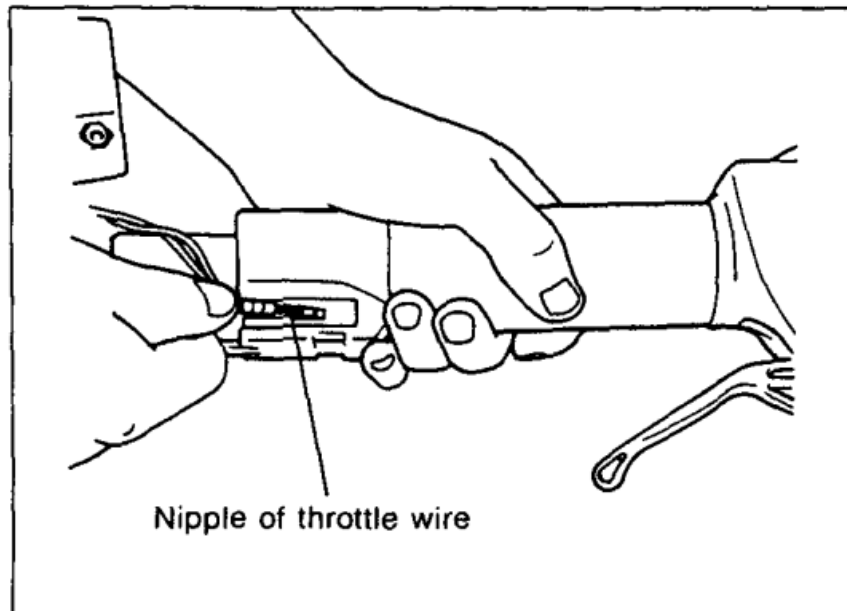

Fig. 17
3. Insert the nipple of the throttle wire through the square hole in the grip until it fits into an inner square hole in the moving part which is inside the grip. The nipple should move when the throttle lever is squeezed (Fig. 17).